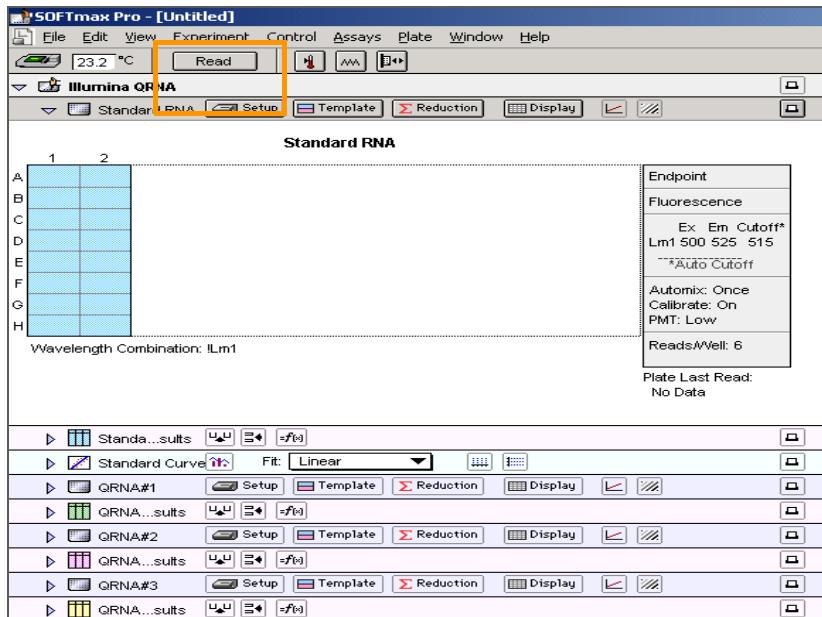

Figure 86 Read Standard QDNA Plate
- Click **Read** in the SoftMax Pro interface (Figure 86) to begin reading the Standard QDNA Plate.